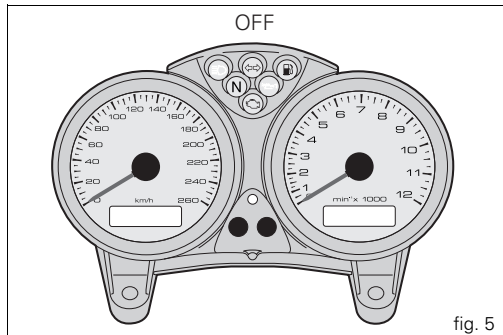
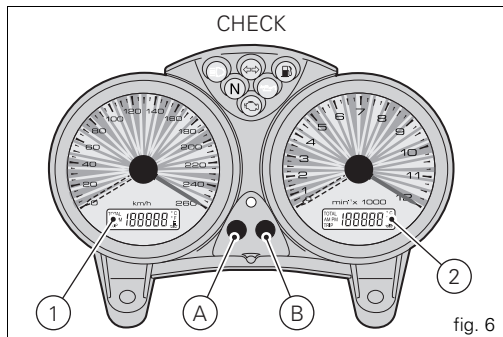

fig. 5
fig. 6
When the engine is switched on (key turned from OFF to ON), the instrument panel checks all instruments (dials, display, warning lights), see (fig. 5 and fig. 6).
By pressing button (A, fig. 6) with the key turned to ON, you can cycle between display of the trip meter and the odometer and, if the fuel level warning light is on, the fuel reserve trip meter (latter function).
If button (A, fig. 6) is held pressed for more than 2 seconds while the TRIP (trip meter) is active, the display is reset (LCD 1).
If button (B, fig. 6) is pressed with the ignition key at ON, the display shows the clock and the oil temperature.
Press (B, fig. 6) for at least 2 seconds and the time will be shown in display (2, fig. 6).
Select AM/PM by pressing button (A, fig. 6). Press button (B, fig. 6) to select the hour setting function. Press (A) repeatedly to change the hour indication. Press button (B) to change to the minute setting function. Press button (A) to increase the minutes; hold the button pressed for more than 5 seconds to increase the rate of change. Press button (B) to exit the clock setting function.
When the fuel level warning light the word "FUEL" will appear on display (2, fig. 6) and the fuel reserve trip meter function will be activated and indicate on display (1, fig. 6) the number of kilometres travelled in reserve preceded by the letter "F" (FUEL).
The appearance of the message "MAInt" on the display (1, fig. 6) indicates that the recommended service interval has expired: this message will be displayed each time the key is turned to "ON" for a period of 5 seconds. When you see this message, you should contact your Ducati dealer or authorised service centre.
Press button (B, fig. 6) within 5 seconds after the ignition key is turned to the ON position to adjust the brightness of the backlight. The brightness changes at each press of the button.